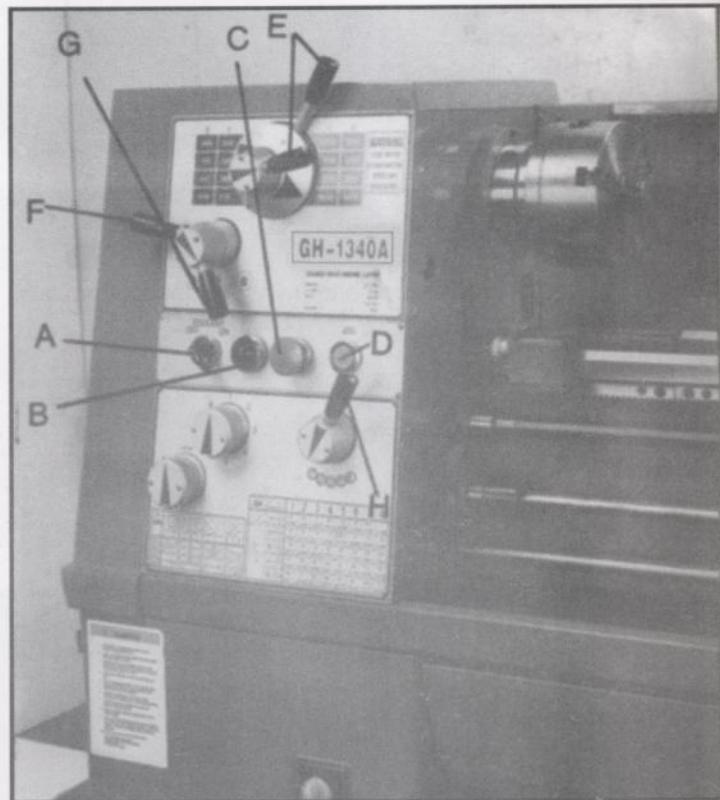

Fig.10
A.Coolant On-Off Switch(A,Fig.10) turns coolant pump on and off.
B.Power Indicator Light(B,Fig.10)-lit whenever lathe has power.
C.Emergency Stop Switch(C,Fig.10)-depress to stop all machine functions. (Caution: lathe will still have power). Twist to re-set.
D.Jog Switch(D,Fig.10)-depress and release to advance spindle momentarily.
2. **Headstock Gear Change Levers**(E,Fig.10)-located on front of headstock at the top.Move levers left or right to desired spindle speed.
3. **Leadscrew/Feedrod Directional Lever**(F,Fig.10)-located on front of headstock. Moving the lever up causes carriage travel toward the tailstock. Moving the lever down causes carriage travel toward the headstock. Do not move lever while machine is running.
4. **Feed/Lead Selector Lever**(G,Fig.10)-located on the front of the headstock at the top. Used whenever setting up for threading or feeding. Caution: in the "A"position, never run the lathe higher than 770 RPM.
5. **Feed/Lead Selector Lever**(H,Fig.10)-located on the front lower right corner of the headstock. Used in setting up for feeding and threading. Positions "F"and"D"are for the feed rod. Positions "E"and"C"are for the feed screw. Position "0" is neutral.